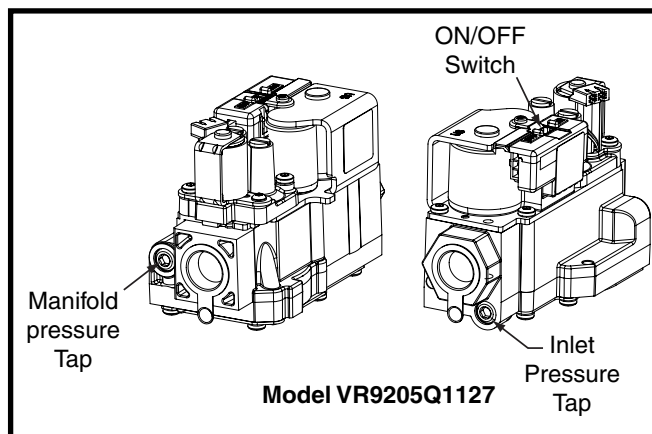

Figure 3. Inlet & Manifold Pressure Tap Locations
3. Move the gas valve ON/OFF switch (see Figure 3) to the OFF position.
4. Place the gas valve ON/OFF switch/knob to the ON position. See Figure 3.
3. Using a 3/16" Allen wrench, remove the manifold pressure tap plug located on the outlet side of the gas valve. See Figure 3 (page 3).